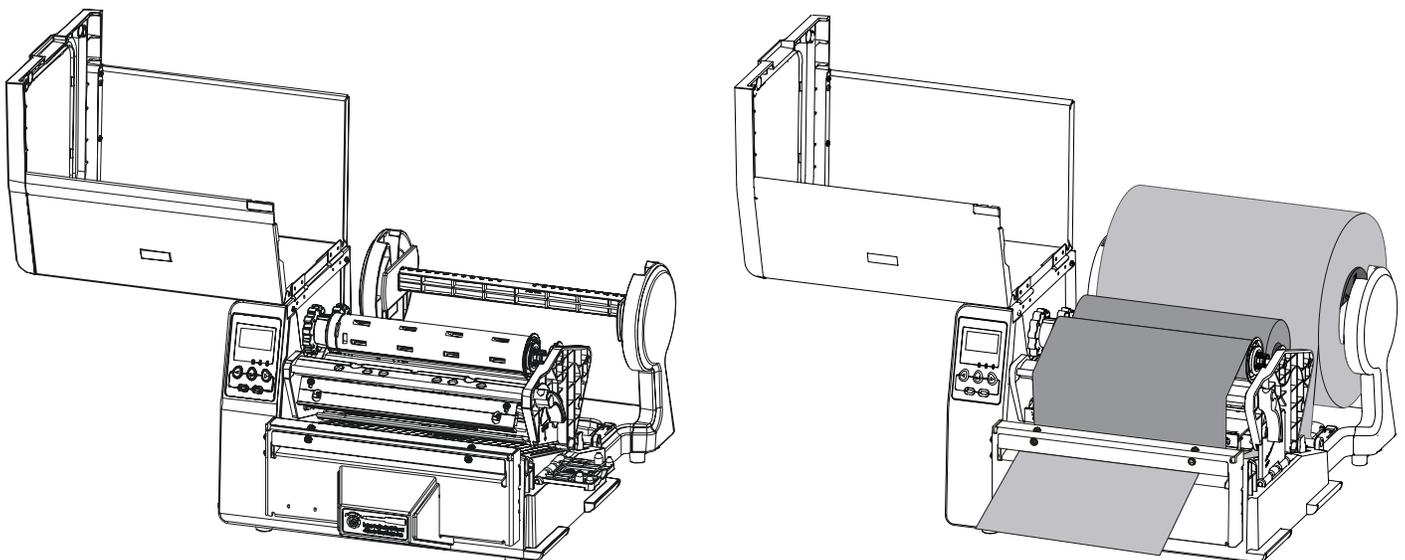

Figure 3-4
4. Turn the handle counter clockwise to release the Printhead Module, load the media and ribbon on the printer, lead the label pass and through the cutter. Then close the printhead, the cutter is now ready to use. See Figure 3-4.